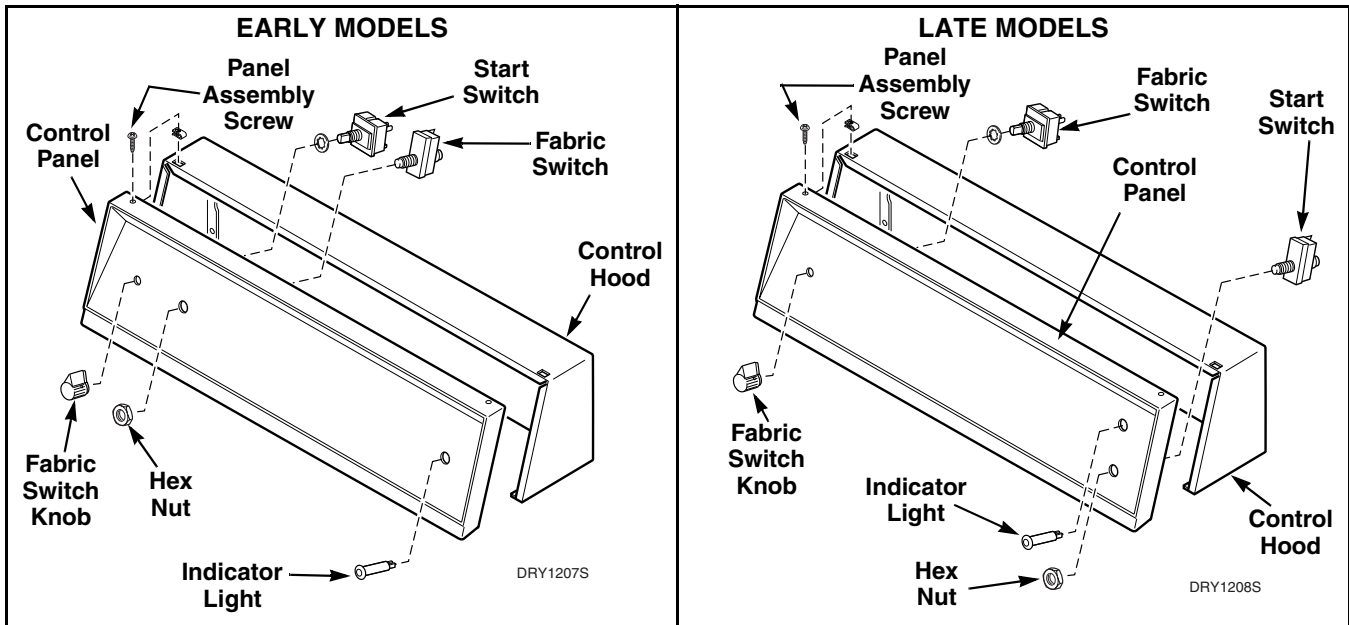

Figure 3
b. **All models except JE2870 and JG2880.** Refer to *Figure 3*.
- (1) Loosen set screw holding fabric switch knob to shaft and pull knob off shaft.
- (2) Remove two control panel assembly screws and lift assembly off panel support.
- (3) Disconnect all wires for fabric switch, push-to-start switch and indicator light.
- (4) Refer to *Figure 3* for removal of components.